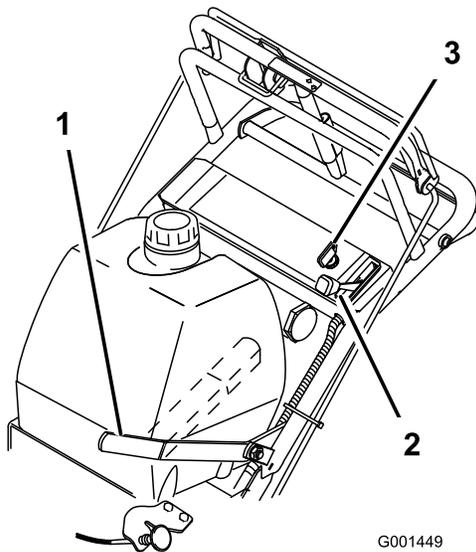

Figure 8
5. Turn the ignition key to the **run** position (Figure 8).
8. Pull the choke knob to the **on** position if the engine is cold (Figure 8).
1. Move the throttle lever to the **slow** position (Figure 8).
3. Turn the ignition key to **off** (Figure 8).